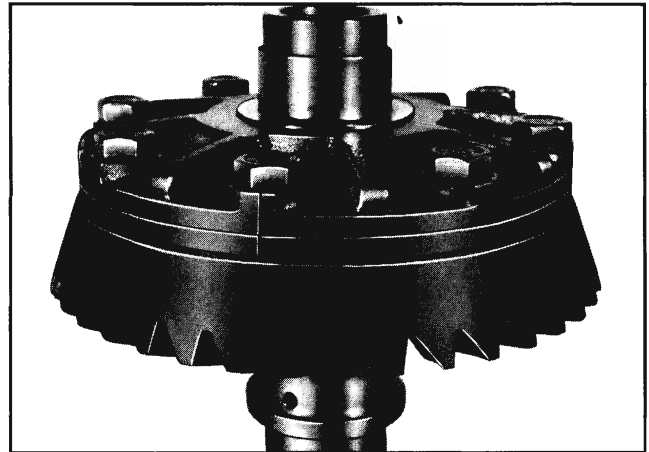

Fig. 4-30 Scribe Mark on Differential
2. A mark is scribed across parting line of differential case and cover to aid in alignment on reassembly (Fig. 4-30).